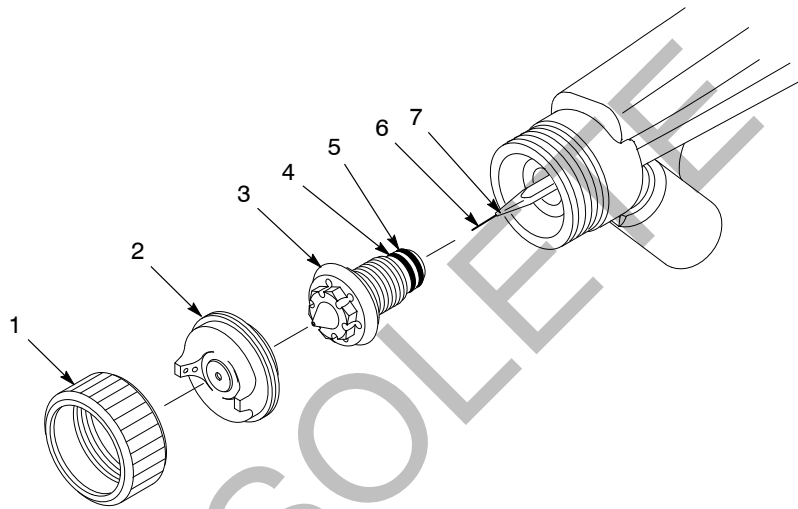

Figure 3-7 Fluid Tip and Air Cap Installation
3. See Figure 3-7. Unscrew the retaining ring (1). Remove the retaining ring and air cap (2) assembly.
4. Prepare the fluid tip (3) by installing the O-ring (5) in the groove on the fluid tip. Lubricate the O-ring with dielectric grease.
5. Make sure the conductive back-up ring (4) is installed on the fluid tip.